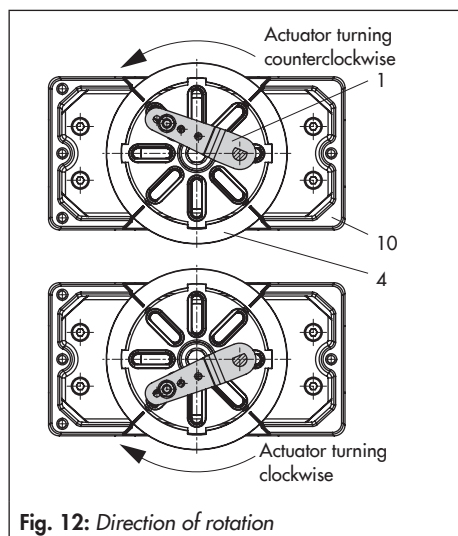

Fig. 12: Direction of rotation
6. Mount connecting plate (6) for required G $\frac{1}{4}$ connecting thread or pressure gauge bracket (7) with pressure gauges on the positioner, making sure the two seals (6.1) are seated properly. Double-acting springless rotary actuators require the use of a reversing amplifier on the connection side of the positioner housing (refer to section 4.6).
8. Place positioner on housing (10) and screw it tight. Taking the actuator's direction of rotation into account, adjust lever (1) so that it engages in the correct slot with its follower pin (Fig. 12).